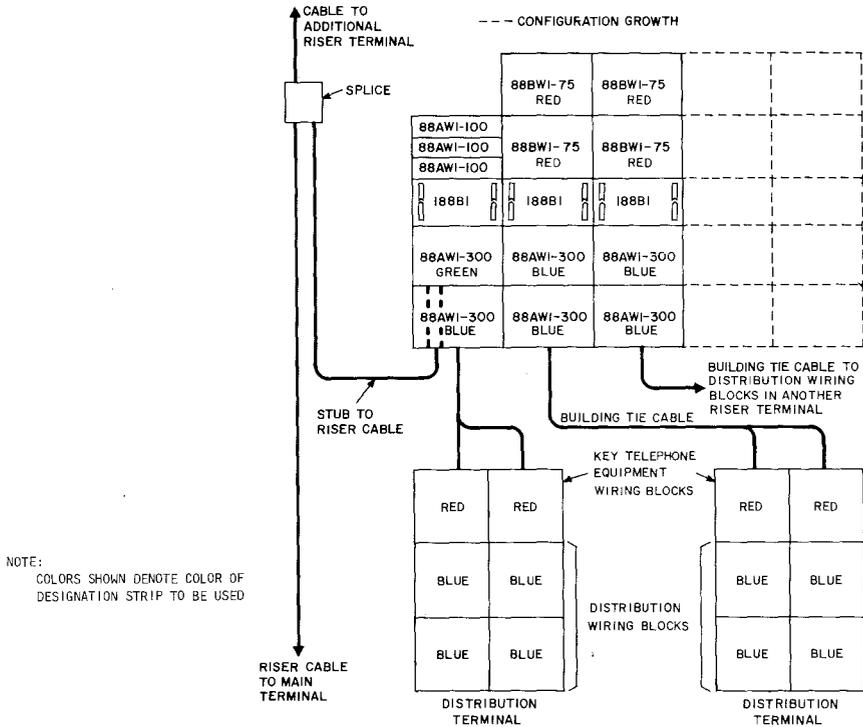

Fig. 7—Block Diagram Showing Riser Terminal Serving Two Distribution Terminals
3.02 Basic line service from a riser terminal to a distribution terminal requires a cable between the two terminals (Fig. 7). This cable will terminate on the distribution wiring blocks (blue designation strips) in the riser terminal and on the key equipment wiring blocks (red designation strips) in the distribution terminal.
4.01 Building tie cables from riser terminals which carry basic line service to distribution terminals **shall** be terminated on key equipment wiring blocks (red designation strips) which are installed in the **distribution terminal** as shown in Fig. 7.
4.02 The wiring blocks shown with blue designation strips (Fig. 7) in the distribution terminal are for terminating the station cables.